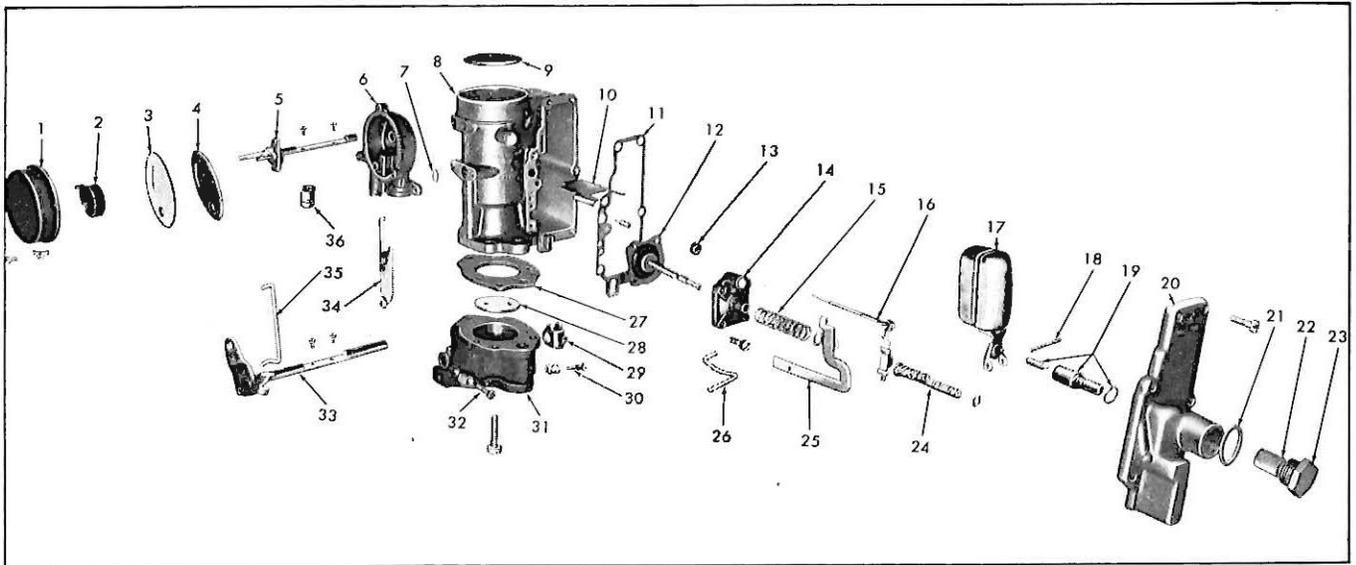

Fig. 14—Carburetor (Exploded View)
Disassembly (Fig. 14)
8. Install metering rod onto the metering rod arm, hook the spring and install retainer clip (fig. 14).